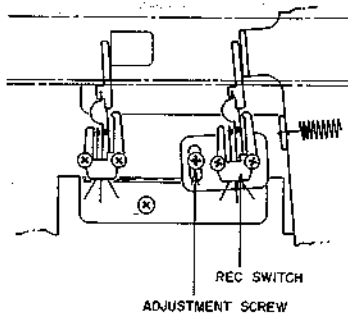

Fig. 13
5. REC SWITCH INSTALLATION POSITION ADJUSTMENT (Refer to Figs. 13, 14)